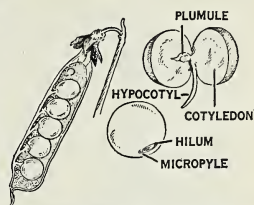

Fig. 372. The fruit and seed of the pea.
**The pea seed.** The fruit of the pea plant is a pod which contains several seeds. Each seed is fastened to the pod by a special stem (Fig. 372). The scar on the seed where it was attached is called the *hilum*. Just outside the hilum is a tiny hole about the size of a fine needle point. Through this opening the pollen tube usually enters the ovule. This little hole is the *micropyle* (Fig. 372).